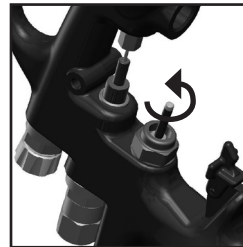

Fig. 15
2. Unscrew air valve using 14 mm wrench. (See fig 15)